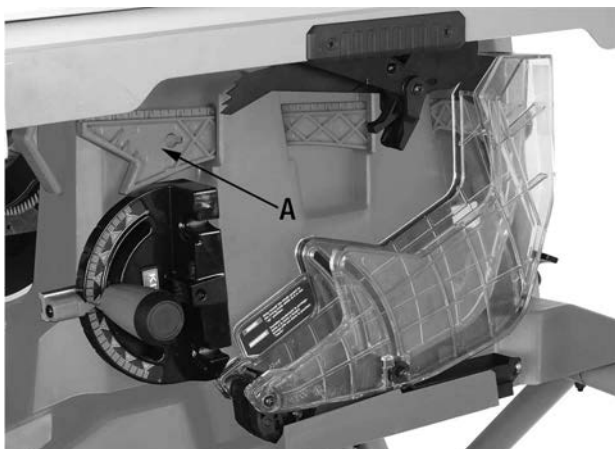

FIGURE 27A
A push stick (A) Fig.27A is supplied with this table saw and should be used whenever possible. When not in use the push stick can be stored on the right side of the table saw cabinet as shown in Fig.27A.